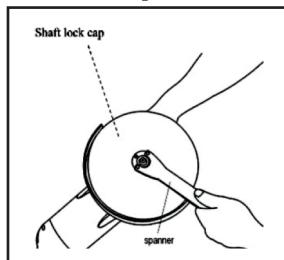

Fig 4
2. 1b tighten the outer flange, press the shaft lock firmly so that the spindle cannot revolve, then use the lock nut wrench and securely tighten clockwise. [Fig 4].